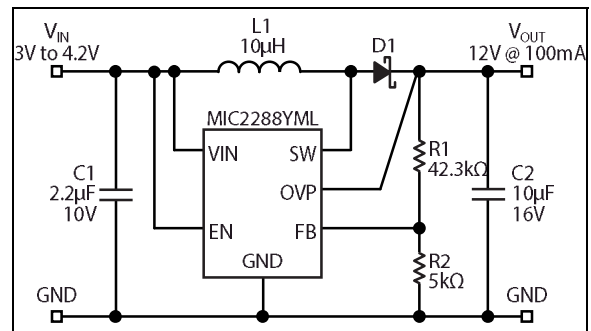

FIGURE 6-3: 3.0V to 4.2V V_{IN} to 12V $_{OUT}$ @ 100 mA.
- Updated values for C2 in the table beneath Figure 6-3.